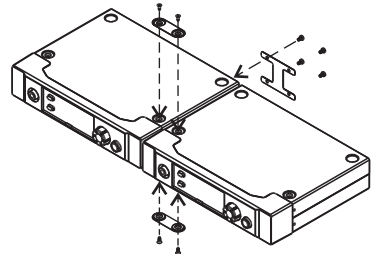

Fig. 14
- (B) Install top & bottom connecting plates to secure both receivers. Fig. 14